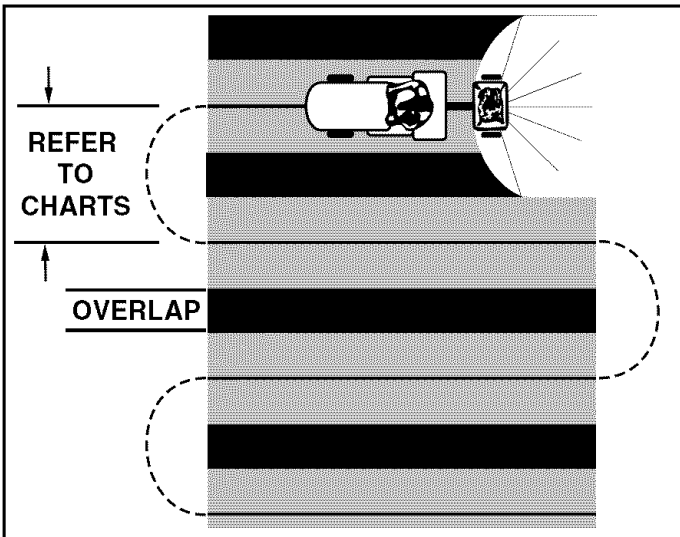

FIGURE 15
- To insure uniform coverage, make each pass so that the broadcast pattern slightly overlaps the pattern from the previous pass as shown in figure 15. The approximate broadcast widths for different materials are shown in the application chart on this page.